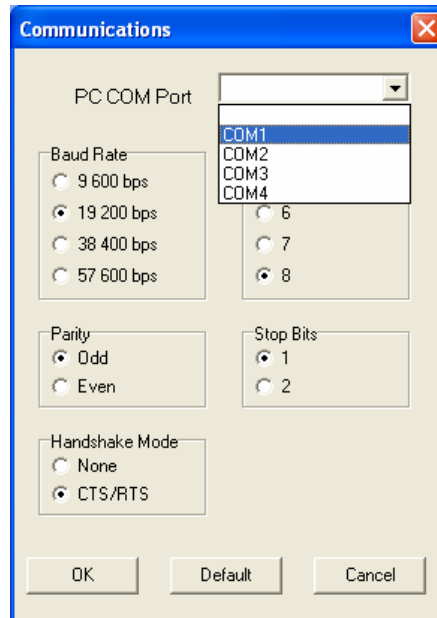

Figure 12: COM Port Settings
- Click on the *Connect* button of the *L1* window. Configure the COM settings as shown in *Figure 12*, and select the PC COM port to which the GST is connected.
- Click on the *Connect* button of the *E5a* window. Configure the COM settings as shown in *Figure 12*, and select the PC COM port to which the GST is connected.